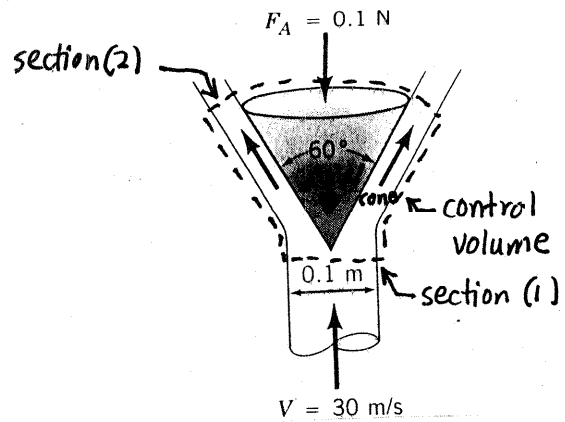

FIGURE P5.50
5.50 A vertical, circular cross-sectional jet of air strikes a conical deflector as indicated in Fig. P5.50. A vertical anchoring force of 0.1 N is required to hold the deflector in place. Determine the mass (kg) of the deflector. The magnitude of velocity of the air remains constant.